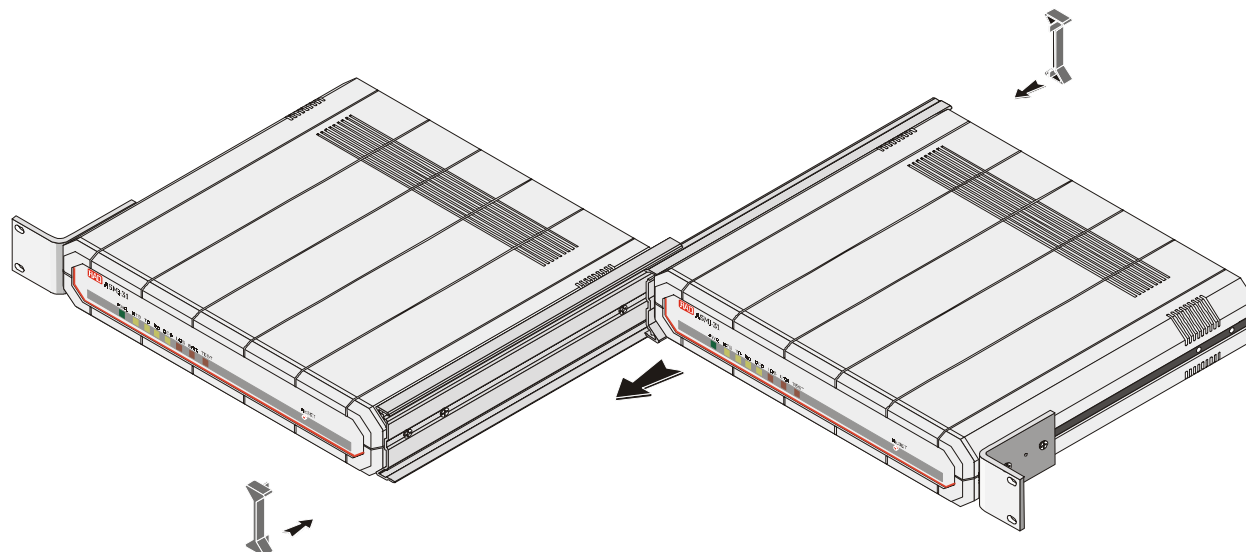

Figure F-3 Fastening Two Units Together
3. Slide the side rail of one unit into the side rail of the other unit, fastening the two units together (see *Figure F-3*).